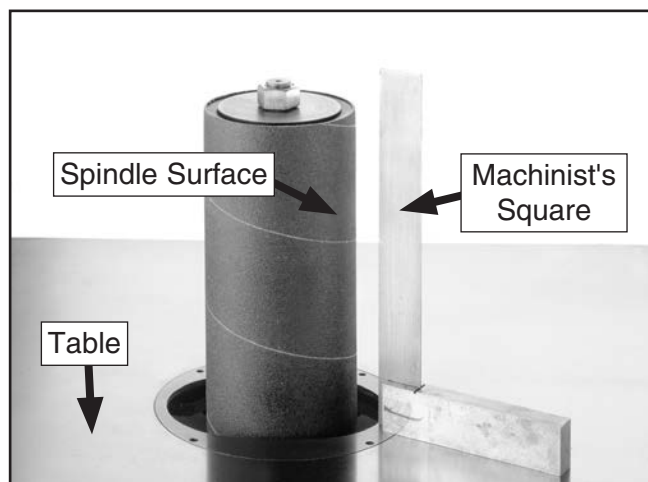

Figure 11. Checking table for square.
7. Using a machinist square, bring the table surface square to the spindle surface as shown in **Figure 11**.